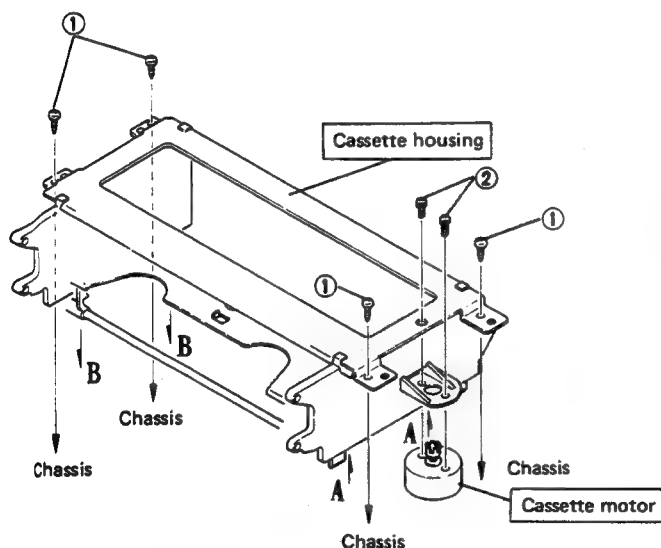

Fig. 2-5 Removing cassette housing
- 2) Take out 2 screws ② and replace the cassette motor (see Fig. 2-5).